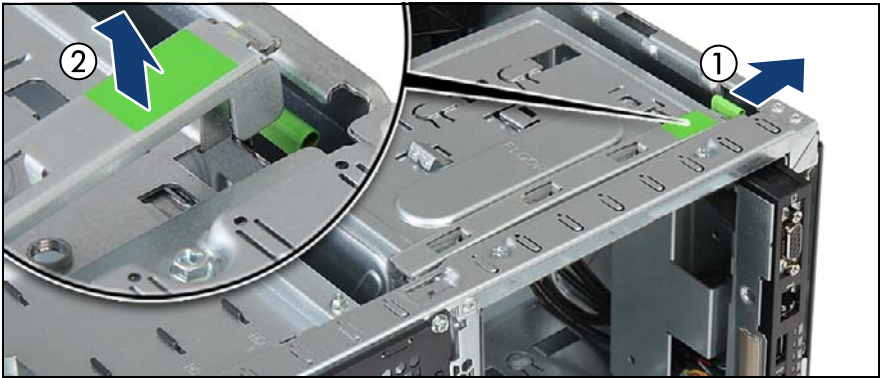

Figure 198: Opening the accessible drive locking bar
- ▶ Press out on the locking latch to disengage the accessible drive locking bar (see figure 198).